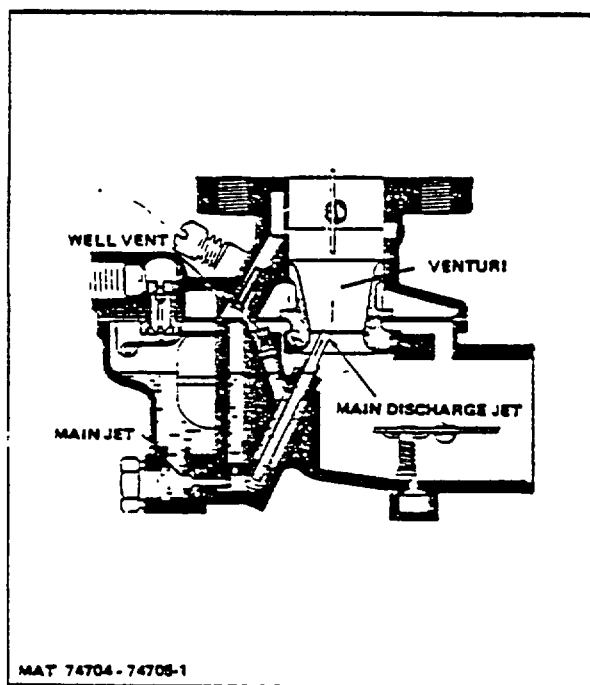

Figure 5. High Speed System
3. High Speed (Main Metering) System. As the throttle is advanced to approximately one-quarter opening, the amount of air passing through the venturi creates a suction on the tip of the main discharge jet. This suction causes the fuel to flow from the fuel chamber through the main jet and into the main discharge jet where it is mixed with air admitted by the well vent jet. This mixture is then discharged into the air stream through the discharge jet, see Figure 5. The main jet controls the fuel delivery from about one-quarter to full throttle opening. To maintain a proper mixture ratio a small amount of air is admitted through the well vent into the discharge jet through air bleed holes located in the discharge jet at a point below the level of fuel in the metering well.